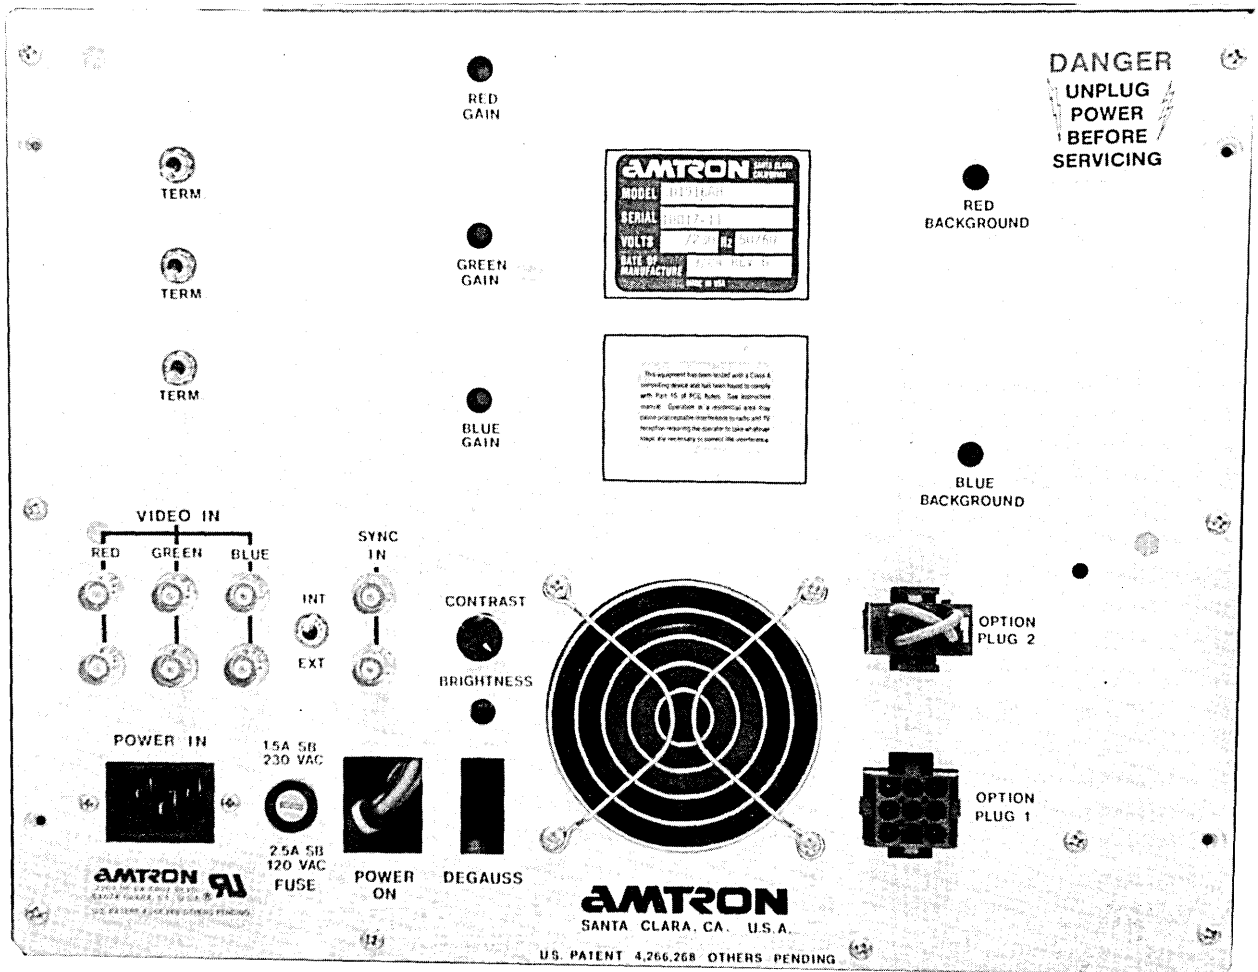

Figure 5-4. Color Monitor Rear
2. Check that three TERM switches on color monitor rear (figure 5-4) are in down position.